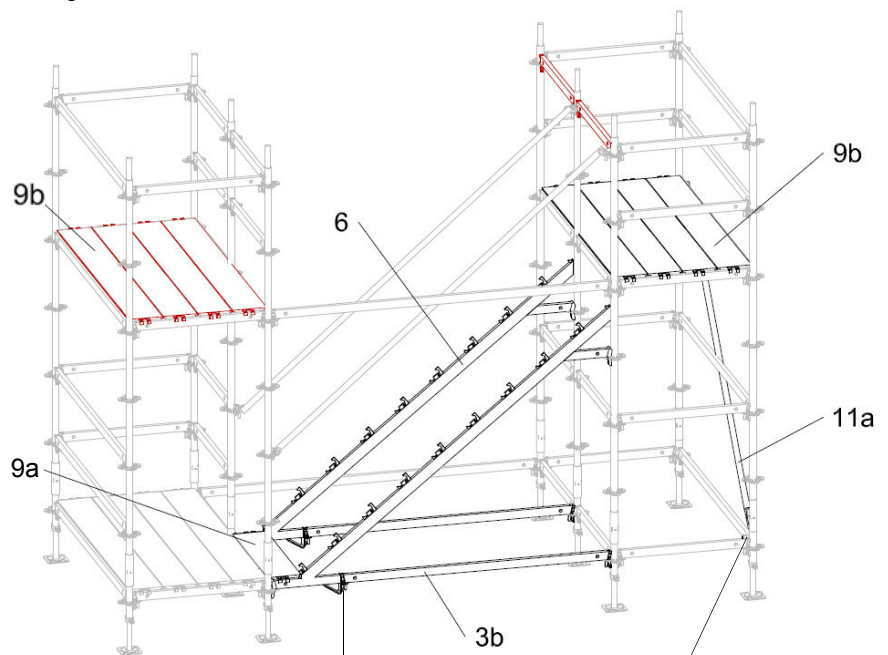

Fig.A2-5
Remove provisional red Ledger UH 250 (3a) and attach Stair Stringer UA (6) and UH 200 (3b). (Fig A2-5)